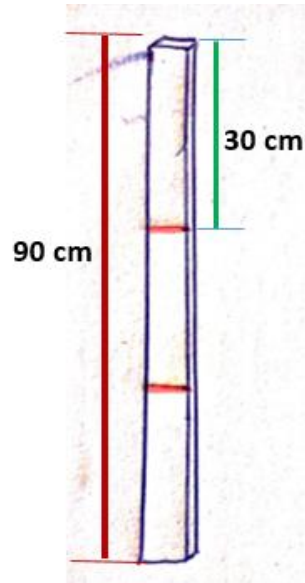

Figure 7: Measurement plan of 90 cm poles
2.- To continue the 4 sticks of 90cm, they will be pointed 30cm 3 times (Figure 7) this will be done to nail the triplex.